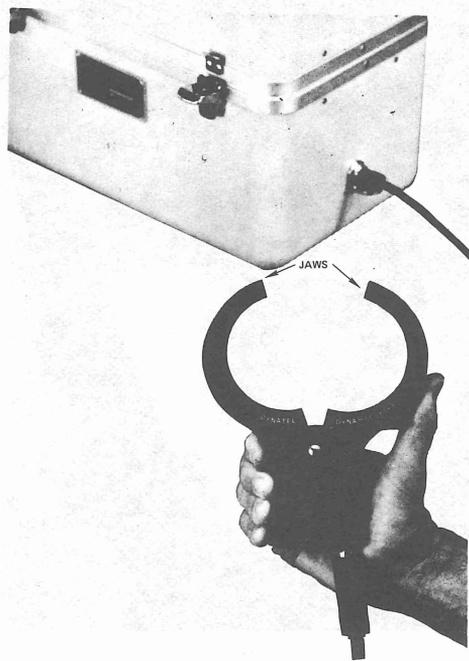

Fig. 5 — Opened Dyna-Coupler™. In the background, the Coupler Cable is shown connected to the Transmitter Output Jack.
3.03 DYNA-COUPLER™. If access to the cable is available, this is the easiest and most accurate way to put tone on only one cable. Connect the coupler assembly to the Transmitter Output Jack with the 12-foot cable assembly (Figure 5). Then open the coupler jaws and place them around the desired cable (or conductor). The tone will be loudest on just that one cable. It is unnecessary to remove common bonding or ground, or to open the cable or conductor.